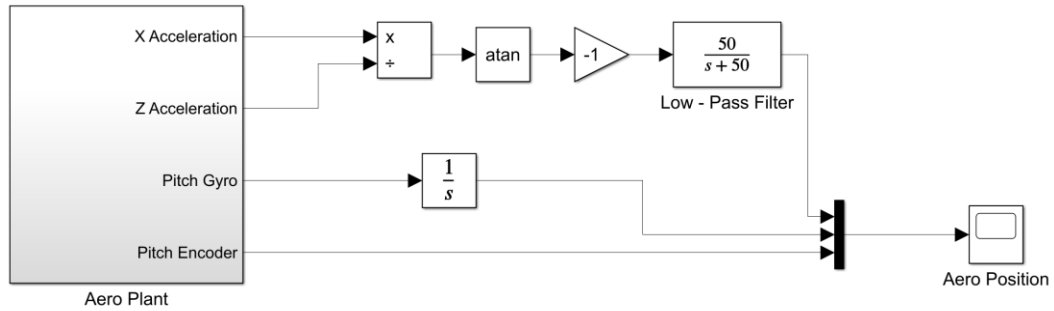

Figure 4: Calculating angle from acceleration and angular velocity
- Again, modify the QUARC model as shown in Figure 4 to calculate the Aero body pitch from the gyroscope readings using an integrator block.